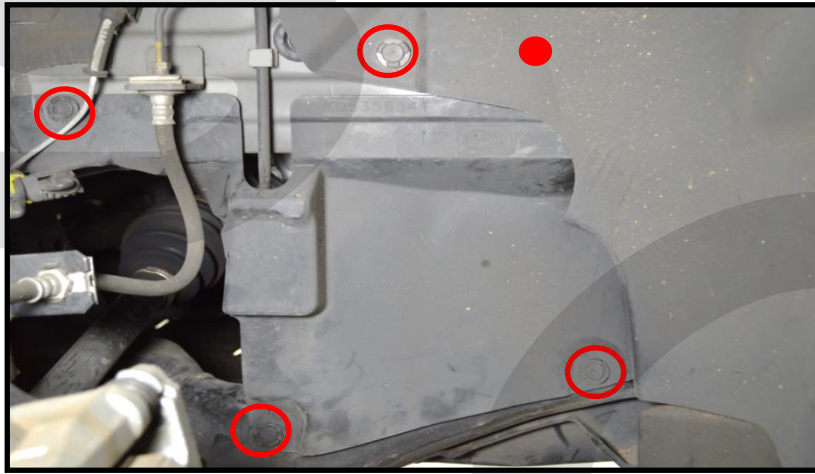

Figure 5a
- a) Install the cover with the pop clips. Refer to red circles in Figure 5a.